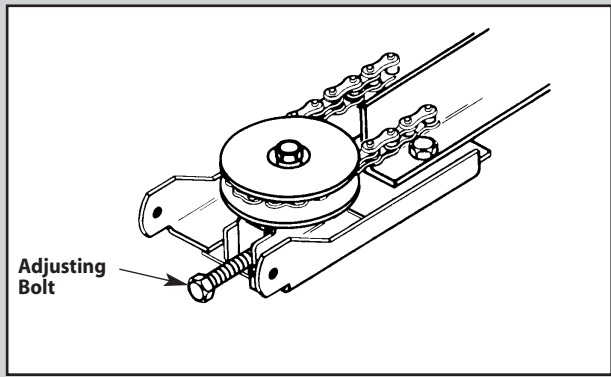

Fig. 1-4
6. **Use adjusting bolt to set chain tension (Fig. 1-4)**